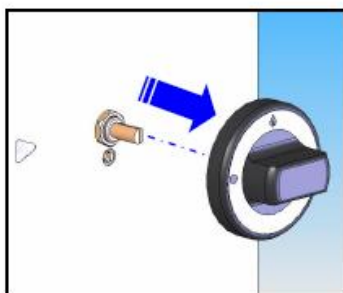

Figure 6
- Remove On-Off knob of Heater Mechanism (Figure 6).